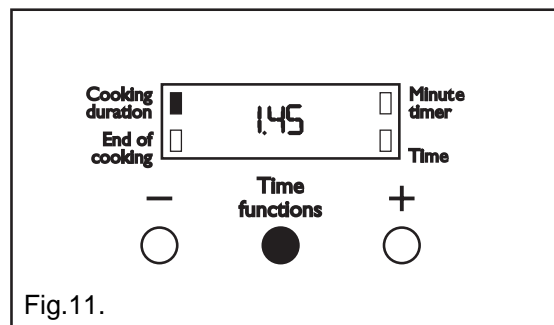

Fig.11.
- 6) To check the 'End of cooking' during the cooking period, simply press the Time functions control button once and the remaining time will be displayed, as Fig. 11.